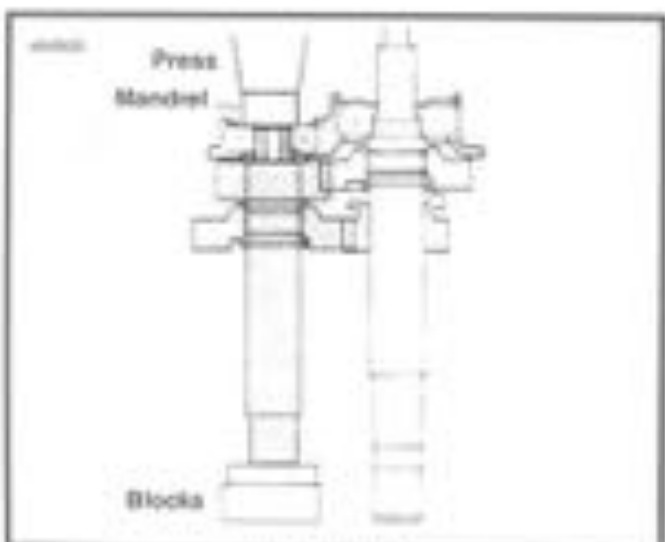

Figure 6-39.
- See Figure 6-39. Stand countershaft assembly on press with small end (end with threaded hole) upward. Place access cover and mainshaft assembly on top of countershaft with bearing (1) in access cover over end of countershaft. Place a socket or section of pipe on inner race of bearing (1). Hold assembly straight, making sure gear teeth on countershaft are engaged with gear teeth on mainshaft, and press bearing onto shaft until beveled spacer bottoms against bearing.